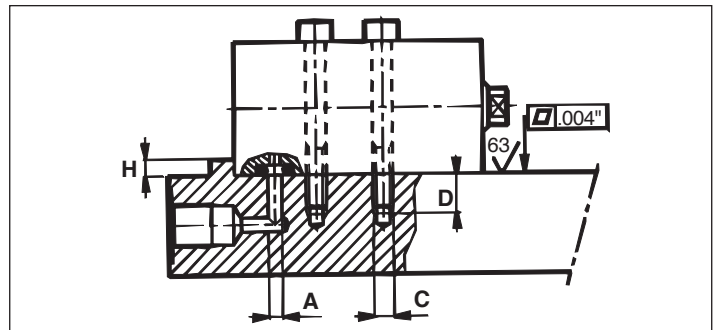

Figure 1, Manifold Mounting
Depending on block cylinder model, two mounting options are available. See Figures 1 and 2.
Table A - Installation Information (See Figures 1 and 2)
CAUTION: When operating above 2,175 psi [150 bar] of hydraulic pressure in applications as shown in Figures 1 and 2, provide cylinder back-up, using a support to eliminate shear loads on the mounting bolts. This minimum support height (H) is specified in Table A, Installation Information. The thickness of this support should be equal to the mounting bolt diameter.
5.1 Manifold mounting: (See Figure 1)